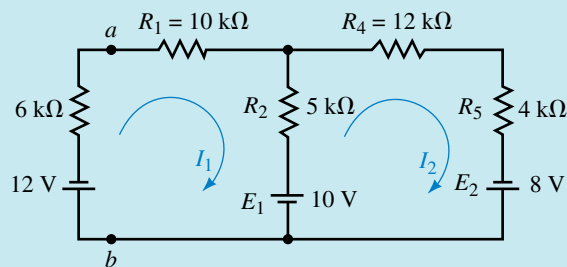

FIGURE 8-28
Step 2: Redrawing the circuit is further simplified by labelling some of the nodes, in this case *a* and *b*. After performing a source conversion, we have the two-loop circuit shown in Figure 8-28. The current directions for I_1 and I_2 are also illustrated.